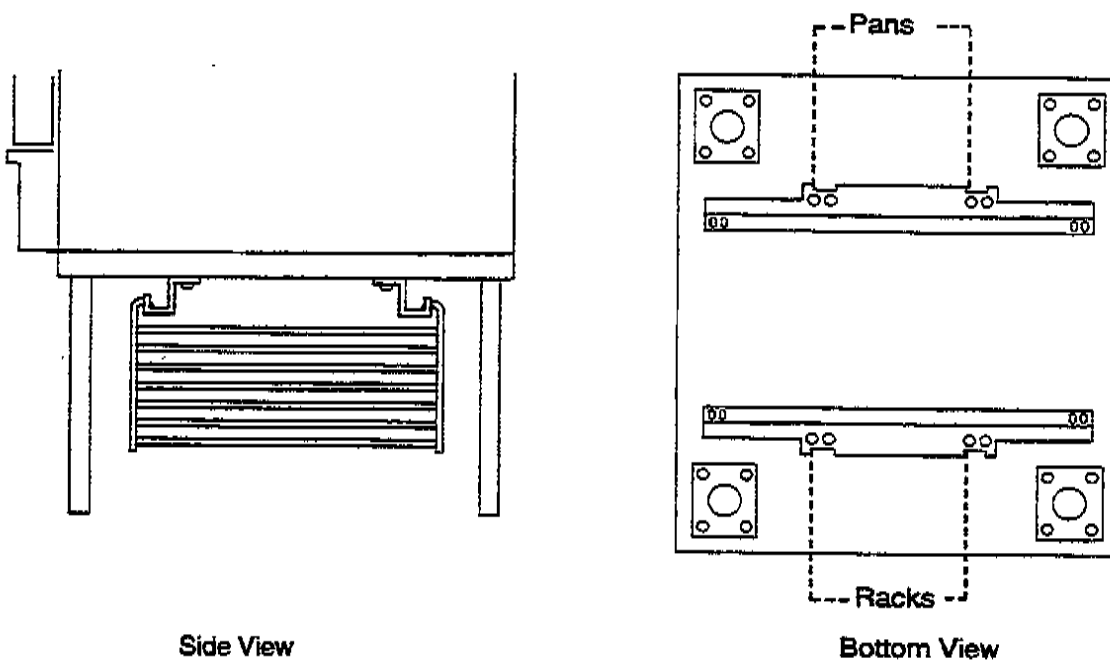

FIGURE 15
4. Hang rack guides from outside frame hanger holes for racks, or inside hanger holes for pans. Refer to figure 15.